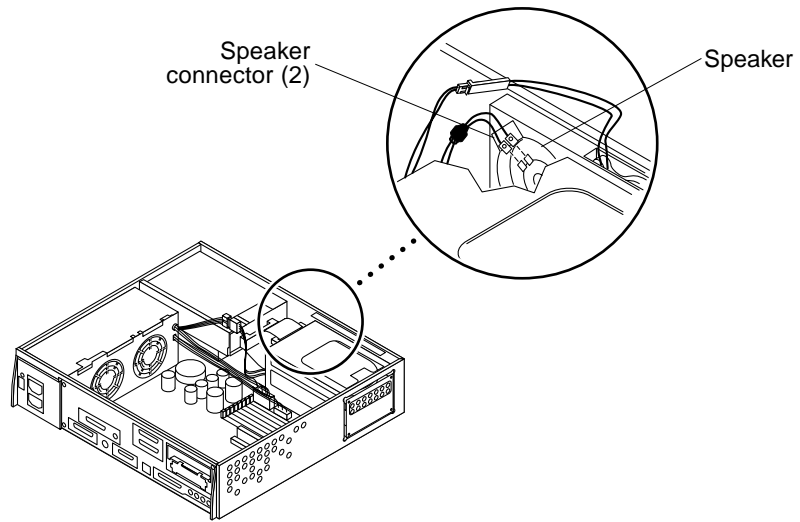

FIGURE 8-25 Speaker/LED Cable Connection
- 7. Use the needle-nose pliers to disconnect the speaker/LED cable from the speaker (FIGURE 8-25).**
3. **Use the needle-nose pliers to connect the speaker/LED cable to the speaker (FIGURE 8-25).**